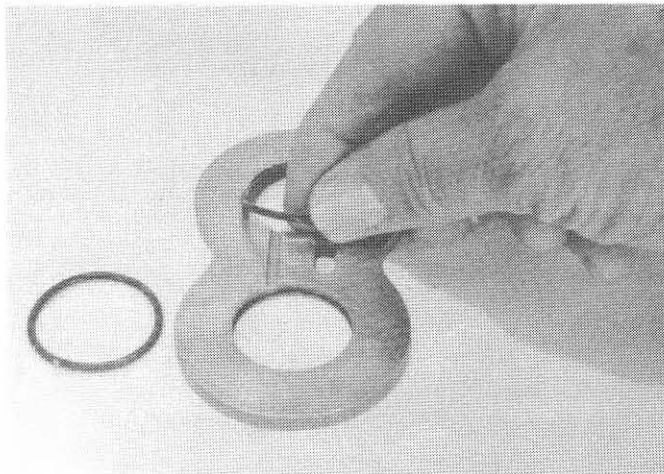

FIG. 6
8. Remove pressure plate (13). Remove o-rings (12) from the journal bores of the pressure plate. (Fig. 6)